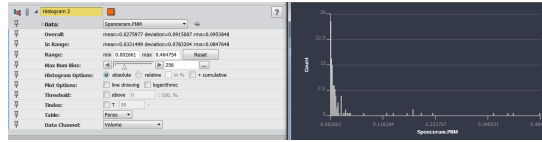

Figure 24.17: Pore Volume Histogram
- The generated PNM can be used to plot the statistics of the pore space (see Figures 24.17 and 24.18).